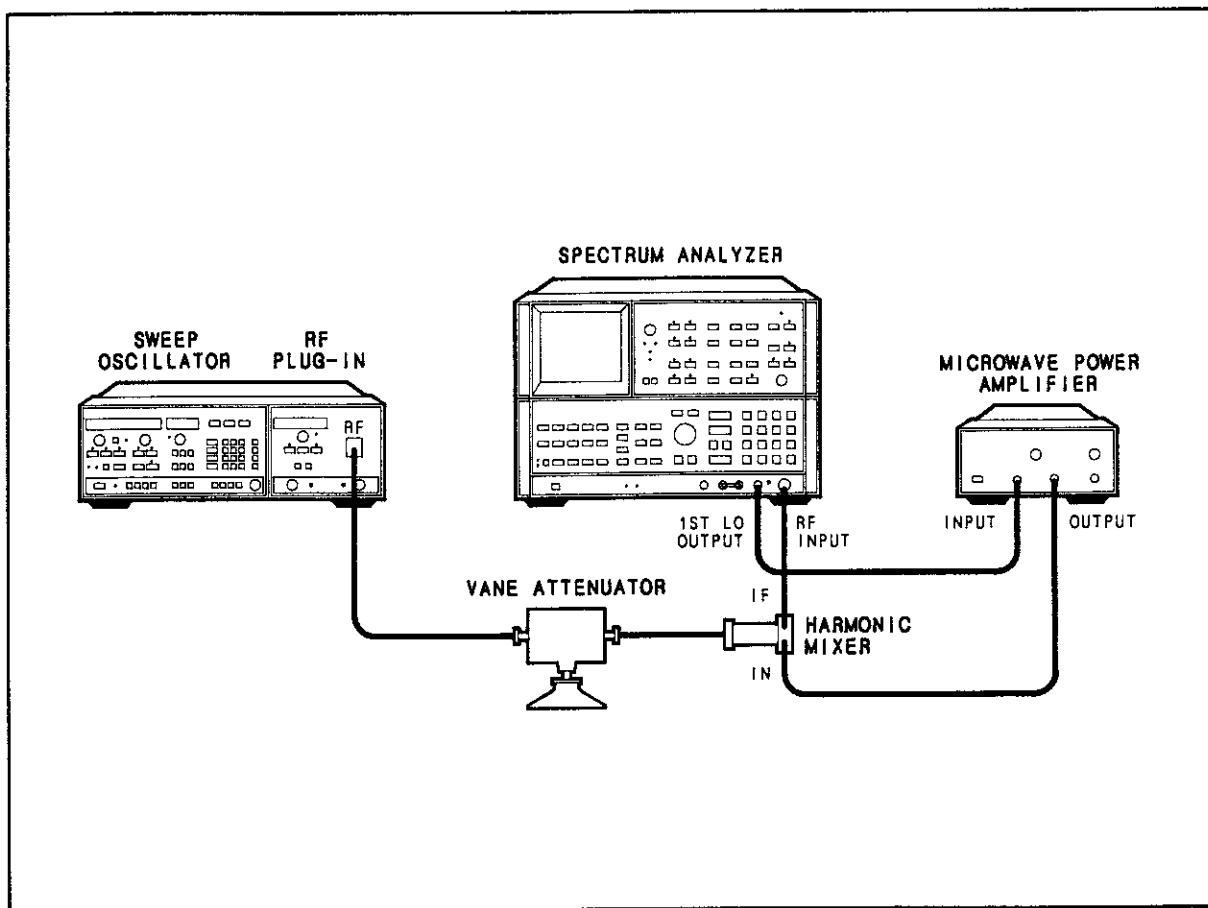

Figure 4-9. Residual FM Test Setup
1. Connect the equipment as shown in Figure 4-9, but do not connect the mixer output yet. Set the vane attenuator to 20 dB.